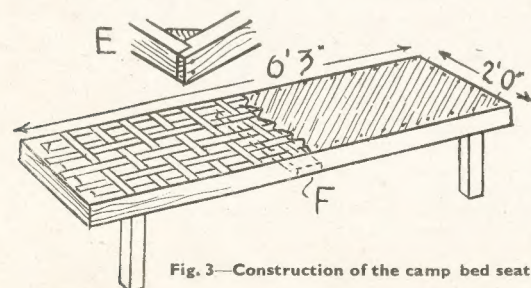
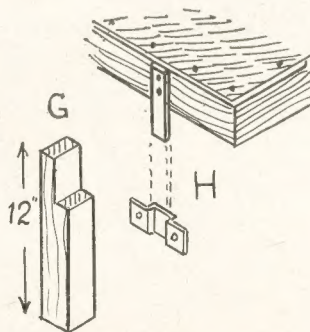

Fig. 3—Construction of the camp bed seat
Fig. 4—Fitting the legs
caravan is to one side. Fig. 3 shows one of the frames. Make up from good quality timber of 1½ ins. by 2½ ins. section.
The second frame should be similarly made, but is just 2½ ins. wider, for reasons mentioned later on. The legs (G) Fig. 4, are cut from 2 in. wood, and cut away at the top where they are screwed to the frames. Fix these legs, approximately where shown in the view at Fig. 3.
For fixing the frames to the walls of the caravan, simple metal fittings are suggested, made from $\frac{1}{2}$ in. by 1 in. iron bar. These are shown at (H) Fig. 4. Three will be needed for each frame, screwed to the rear of each, and the sockets screwed to the walls of the caravan at the right height.